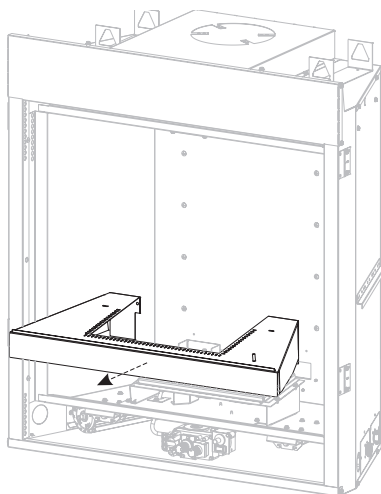

Figure 8
5. Remove burner cover by lifting off. **See Figure 8.**
18. Replace burner cover removed in step 5. **See Figure 8.**